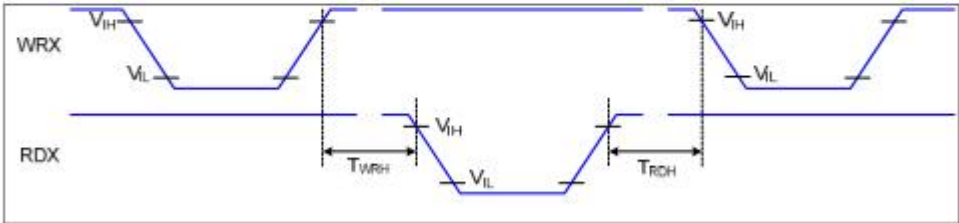

Figure 3 Write-to-Read and Read-to-Write Timing
5. The electro-optical response time measurements shall be made as FIGURE 3 by switching the "data" input signal ON and OFF. The times needed for the luminance to change from 10% to 90% is T_r , and 90% to 10% is T_d .